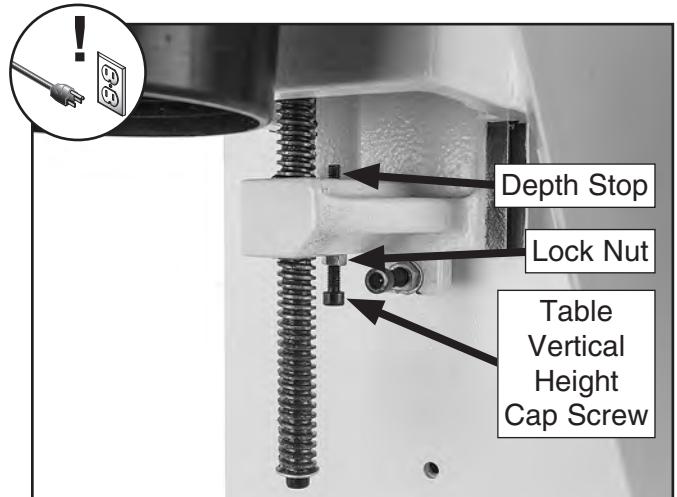

Figure 44. Table vertical height adjustments.
2. Loosen lock nut (see **Figure 44**).